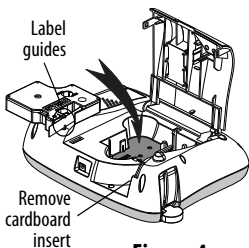

Figure 4
- 2 Before using the label maker for the first time, remove the protective cardboard insert from the label exit slot. See Figure 4.
- 3 Insert the cassette with the label facing up and positioned between the label guides. See Figure 4.